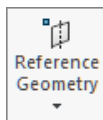

Fig. 20
Step 1. Click a cylindrical face of Rim to select it, **Fig. 20**.